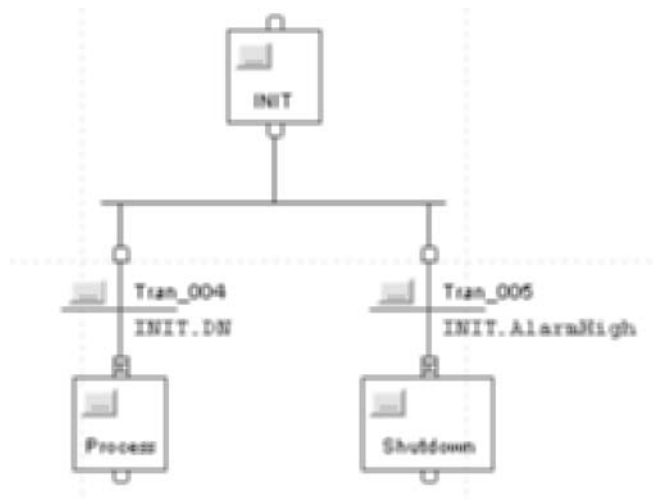

Figure 10-14 Use of a Step's AlarmHigh member (bit).
The next example makes use of the Step's AlarmHigh member. The AlarmHigh member is one bit. Study Figure 10-14. To use the alarm bits in a step you must turn on the Alarm Enable (AlarmEn) parameter bit in the step (refer back to Figure 10-12). This is done in the check box labeled AlarmEnable. You must also enter a value for LimitHigh. If the step's timer (T) has reached the LimitHigh value, the AlarmHigh bit will be turned on. The bit will stay on until you reset it. In this example the step was supposed to be finished successfully in less than 10 seconds (10000 ms). If it is finished, the transition on the left of the selection branch will be true and the step named Process will be executed. If the tasks in the step are not completed in less than 10 seconds, the step's AlarmHigh bit (INIT.AlarmHigh) will be set, the transition on the right will be true, and the step named Shutdown will be executed.